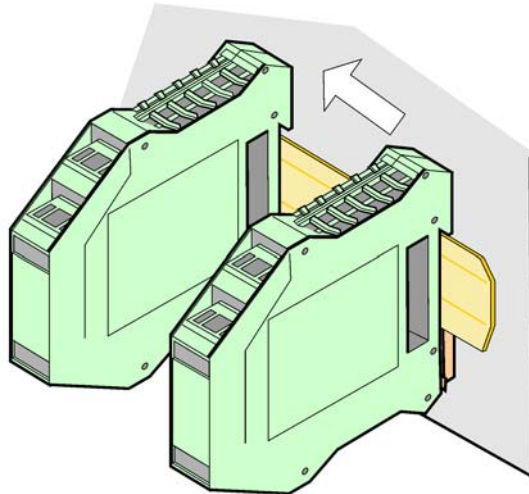

Figure 75 Attaching multiple expansion modules
4. For multiple modules, install the modules side-by-side on the DIN rail and slide the modules together (Figure 75). This way the network and power supplies in the modules are connected together.